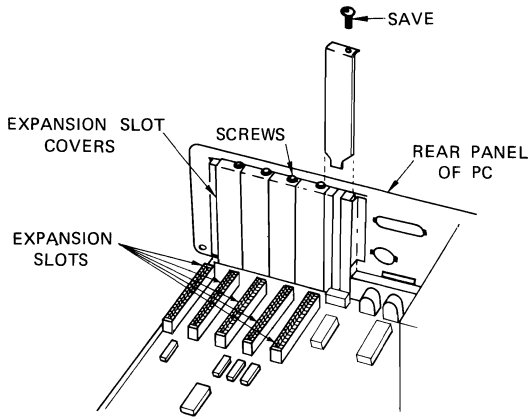

Figure 3. Expansion Slots in System Unit
- A. Look inside the System Unit. In the left rear are 5 or 8 expansion slots (See Figure 3). Some may already be filled. Choose one of the empty slots. But please be reminded cabling is easiest from the slots toward the right.